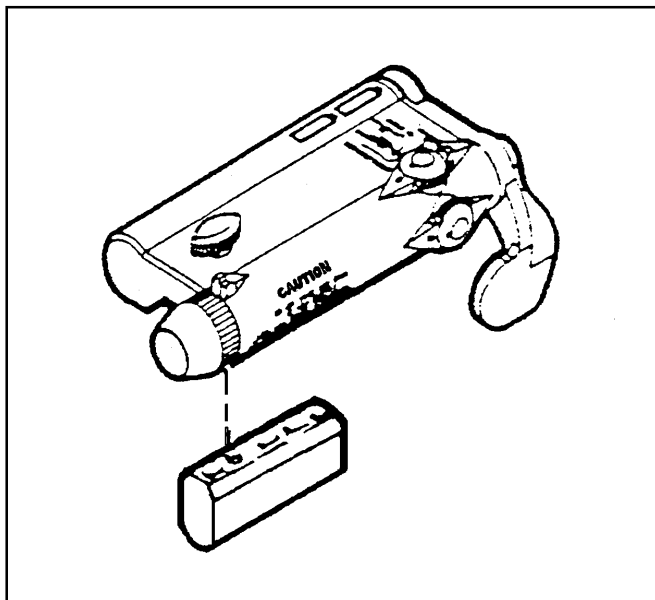

Figure G-7. Attaching bracket adapter to aiming light.
- (c) Attach the AN/PAQ-4 on the bracket adapter (Figure G-7).